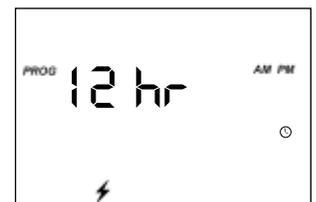

Fig. 22
- b. Press  again and Fig. 22 is displayed (with only one of **AM** and **PM**).